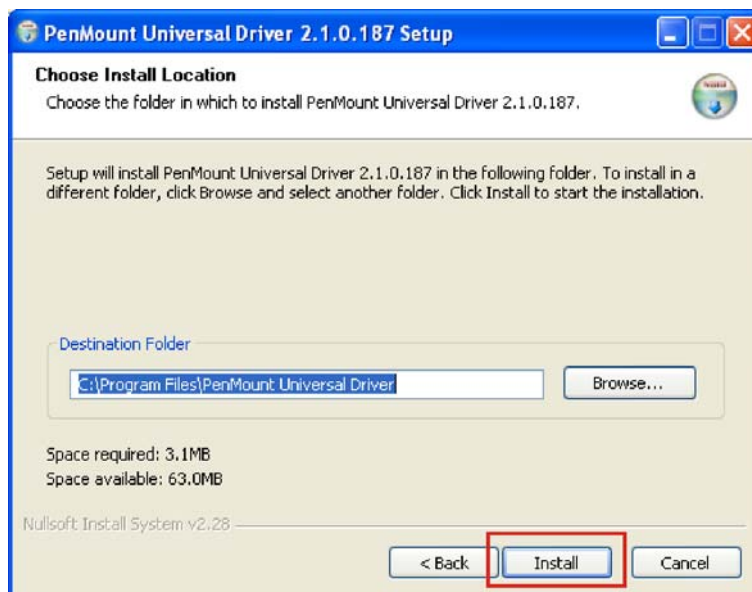

Figure 6-27: Touch Panel Installation Directory
Step 7: The **Choose Installation Location** window appears (Figure 6-27).
Step 8: Accept the default installation directory (only change if necessary) then click **INSTALL** to install the touch panel drivers (Figure 6-27).